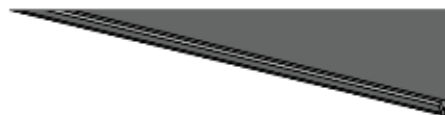

Figure 8 - Levelling foot adjustment direction.
9. Lift the ElektroBank 14 onto the wall bracket and using a 17mm spanner, rotate the adjustment nut clockwise (Figure 8) until the feet begin to take the weight of the unit. Tighten the locknut using a second spanner once the desired position is obtained (max. torque 5Nm).